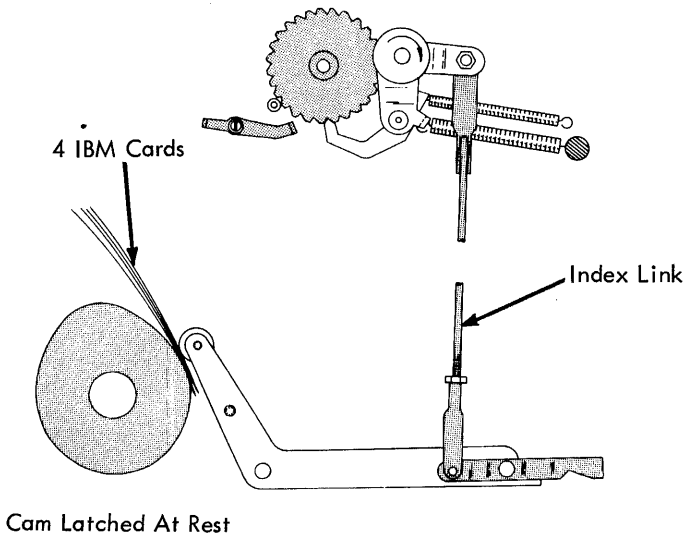

FIGURE 222. Index Link Adjustment
- b. With the index selection lever in the single line space position, adjust the index link so that the index pawl bottoms in the ratchet against a tooth after .030" rise on the index cam (Fig. 222). Half-turn adjustments may be made by disconnecting and turning the link at the top.
The cam rise may be simulated by leaving the cam latched in the rest position and placing four strips of IBM card stock between the cam and the cam follower (Fig. 222).